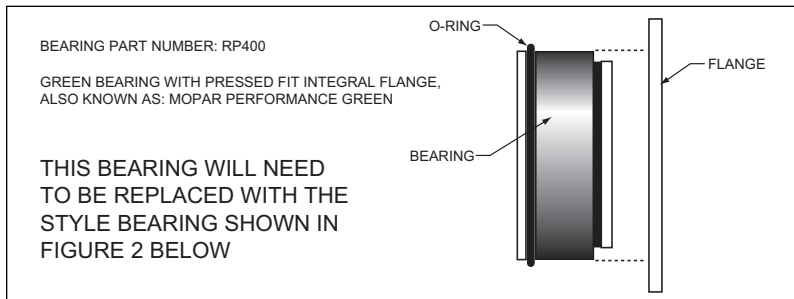
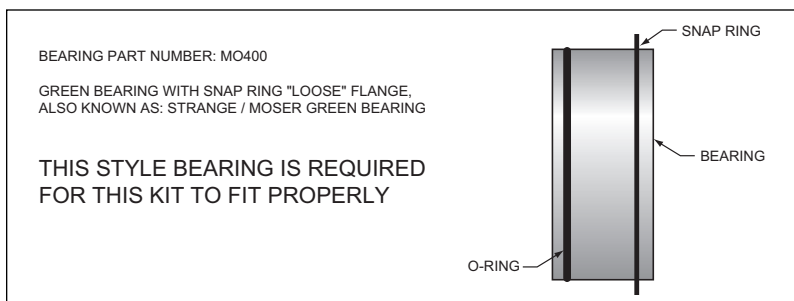
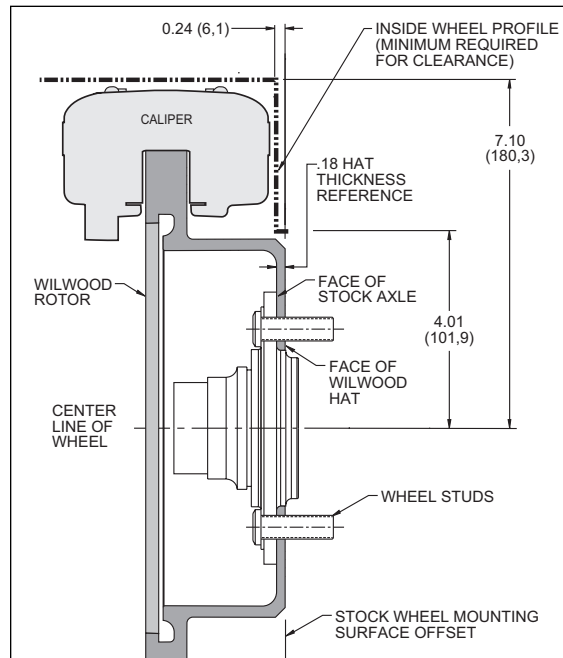

Figure 1. Press Fit Bearing Configuration
Figure 2. Loose Fit Bearing Configuration
Figure 3. Wheel Clearance Diagram
Before any tear-down or disassembly begins, it is important to verify which bearing you have. There are two types of "Green Bearings" being supplied by axle manufacturers. Your setup should look like Figure 2 (below left), not the Figure 1 configuration, otherwise this kit will not fit. Furthermore, review the wheel clearance diagram (Figure 3, below right) to verify that there is adequate clearance with the wheels you will be using with this installation.
- That the bearing is the snap ring style bearing with removable flange (see Figure 2, preceding page).